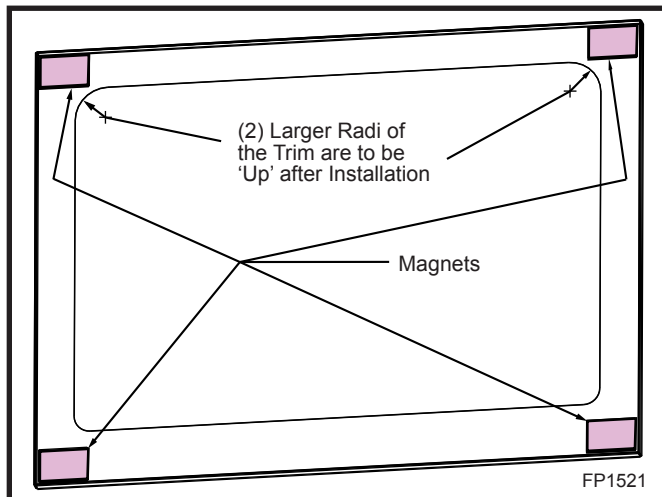

Fig. 39 RFSDV24TKG magnet locations.
3. Attach the magnets to the trim. (Fig. 39)